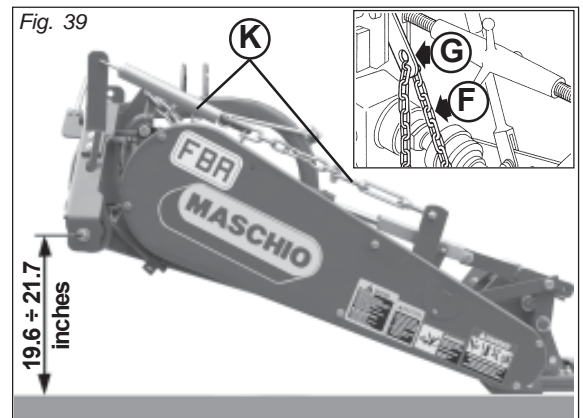

Fig. 39
- Connect one end of the chain (F, Fig. 39) to the mower using the supplied pin and the other end to a stationary point on the tractor. Adjust the height of the mower to the ground (19.6 to 21.7 inches, Fig. 39) by moving the rings of the chain (F, Fig. 39) in the hole on the plate (G, Fig. 39). When the lifter is lowered, this precaution will constantly hold the mower at the same height from ground level.
- Act on the tie rod-spring (K, Fig. 39) to bring the internal skid close to the ground (without discharging the weight on the ground), lightening the load of the machine on the cutter bar.